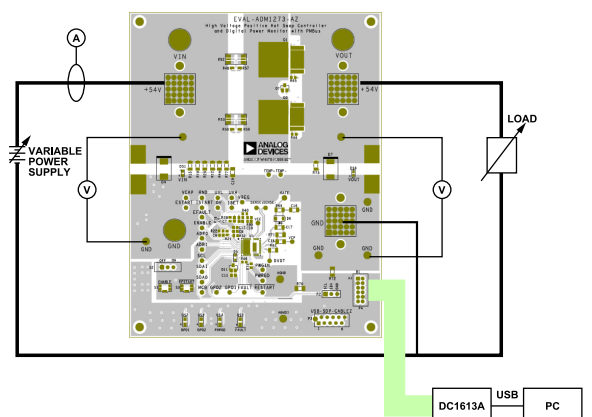

Figure 2. EVAL-ADM1273-AZ Evaluation Setup
The EVAL-ADM1273-AZ board is easily set up to evaluate the performance of the ADM1273. See Figure 2 for equipment setup and follow the evaluation steps with the proper measurement techniques and precautions.
2. Connect EVAL-ADM1273-AZ to the PC through the 12-pin connector, P4, and the USB-to-PMBus controller (DC1613A) as shown in Figure 2.